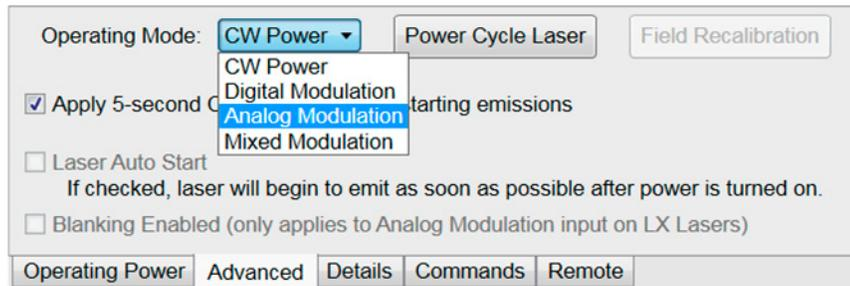

Figure 5-6. Operating Mode-Select Analog Modulation
5. From the 'Operating Mode' drop-down menu, select **Analog Modulation** as the operating mode, as shown in Figure 5-6.